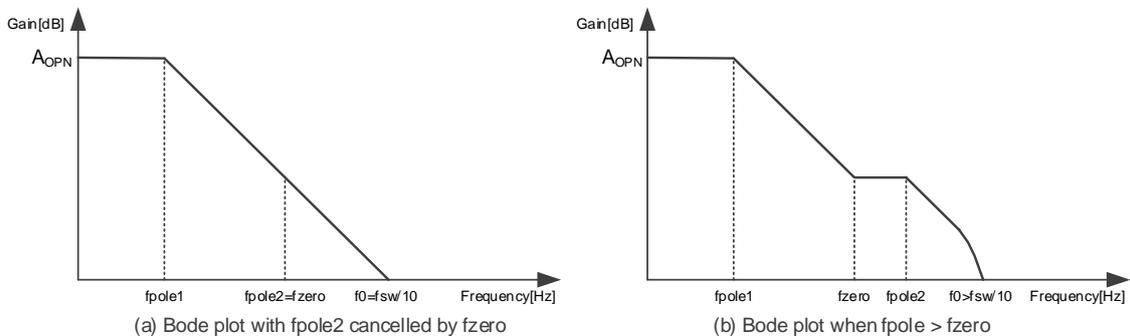

Figure 4-4 Image Diagram of Bandwidth and Phase Compensation for the Buck Switching Regulator
- (1) f_{pole1}: 1st pole determined by g_m amplifier output resistance R_{oSR} and phase compensation capacitance (C₅)
- (2) f_{pole2}: 2nd pole determined by VDRV pin output resistance R_{OUT} and output capacitance (C₄)
- (3) f_{zero}: Zero determined by phase compensation resistance (R₆) and phase compensation capacitance (C₅)
- (4) Double pole at half switching frequency (f_{sw}/2)
The target bandwidth (f₀) is set to 1/10 or less of the switching frequency (f_{sw}) to avoid stability degradation due to the phase delay of (4). The stability is ensured by setting (1) to match the target bandwidth (f₀) and canceling the pole (2) with the zero (3) (**Figure 4-4 (a)**).
If $V_{DRV} = 12\text{V}$, $I_o = 0.5\text{A}$, $C_5 = 2200\text{pF}$, $C_4 = 5.5\mu\text{F}$ (effective capacitance value), then $R_6 = 60\text{k}\Omega \approx 60.4\text{k}\Omega$. The output capacitor (C_4) on the VDRV pin should be calculated with the effective capacitance value considering DC bias characteristics. The 2nd pole (f_{pole2}) depends on the output capacitance (C_4). If the effective capacitance value is smaller than the value used in the calculation example, the 2nd pole (f_{pole2}) becomes a higher frequency than expected, and the actual bandwidth increases from the target bandwidth (f_0) as shown in **Figure 4-4 (b)**. It causes the double pole (f_{pole1n} , f_{pole2n}) at a frequency of 1/2 of the switching frequency (f_{sw}) to be more susceptible and may affect stability.